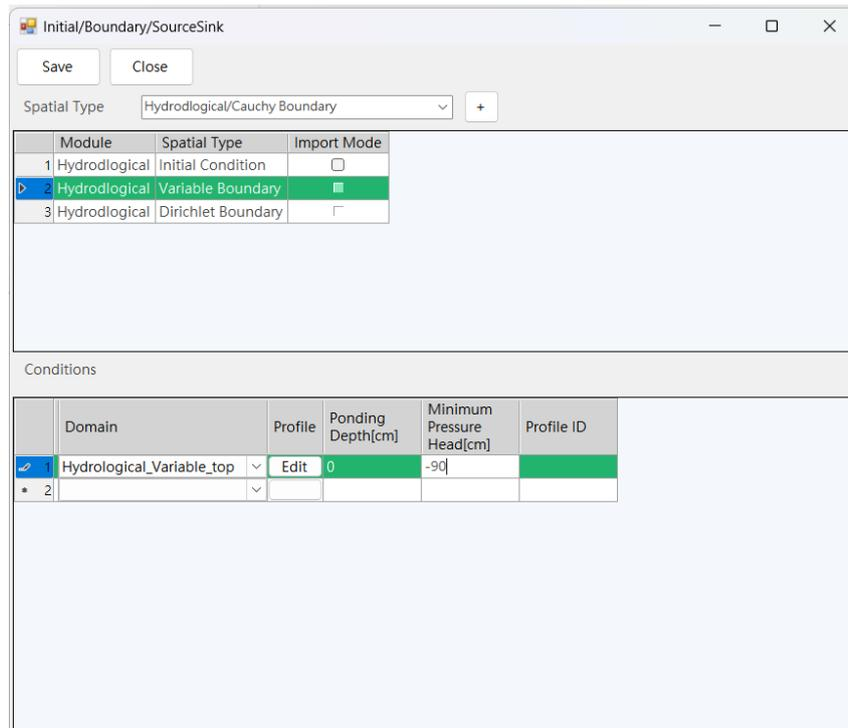

Figure 1.42. Initial/Boundary/SourceSink window.
15. To set a Variable boundary condition on the top surface, select 'Hydrological/Variable Boundary' from the 'Spatial Type' dropdown menu. Then, click the button , and in the 'Conditions' section, choose 'Hydrological_Variable_top' as shown in Figure 1.42. Enter '0' for 'Ponding Depth' and '-90' for 'Minimum Pressure Head'. After that, click the 'Edit' button to input the 'Profile'.